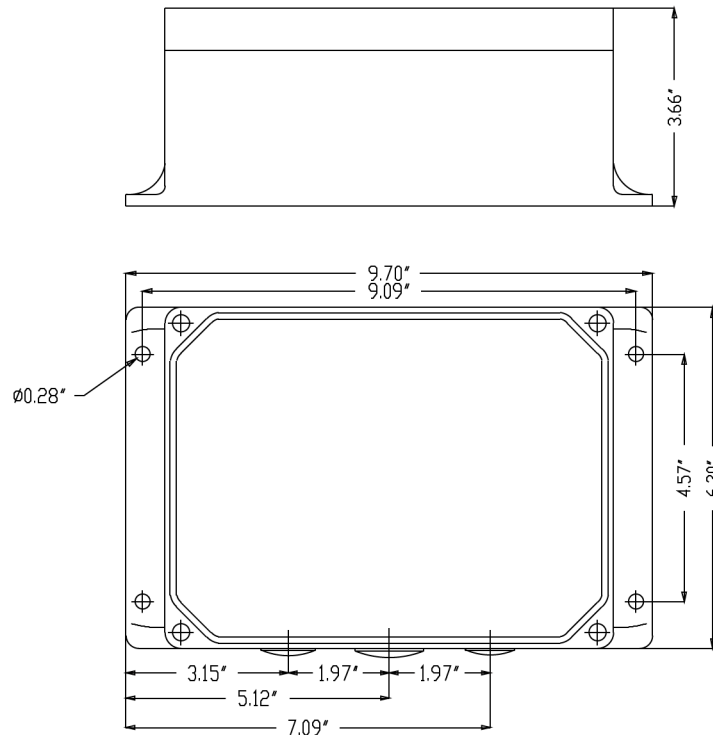

Figure 2.5: Enclosure Mounting Dimensions
Use Figure 2.5: Enclosure Mounting Dimensions for Mounting the (JRX-6, JRX-10 or JRX-14) receiver.
2. Refer to Figure 2.5 Enclosure Mounting Dimensions. Drill holes 7 mm in diameter (.28 in.) into the mounting surface. The depth of the hole depends on the type of screw you are using to mount the receiver enclosure.